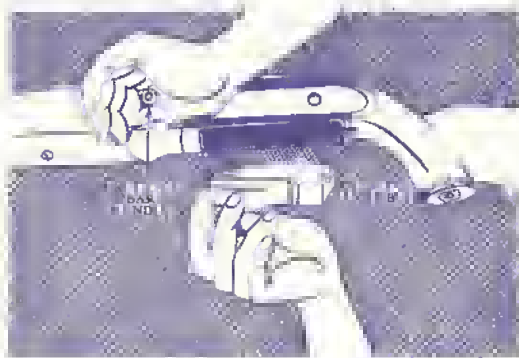

Figure 4
**BOLT:** May be disassembled (see figure 4) by grasping retracting handle and pulling toward the rear, permitting the bolt assembly to drop into the hand. The gun is now completely disassembled for cleaning purposes.